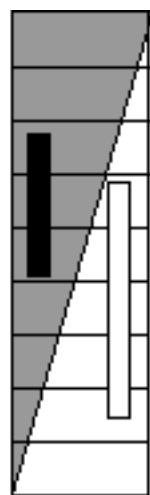

Figure 4
Figure 4 represents what happens with an erasable (RW) disc. Notice that the signal level for a one becomes much lower; the dye is never as nearly transparent as it is for a CD-R. As a result, a conventional reader cannot make sense of the disc at all. In order to read both RW and conventional discs, the reader must adjust its parameters based on the signals it receives. Such dual-mode readers are becoming available at this time (Fall 1997), but few are on the market. If RW discs become common, the demand for dual-mode readers will be significant and they will become the standard for new drives.